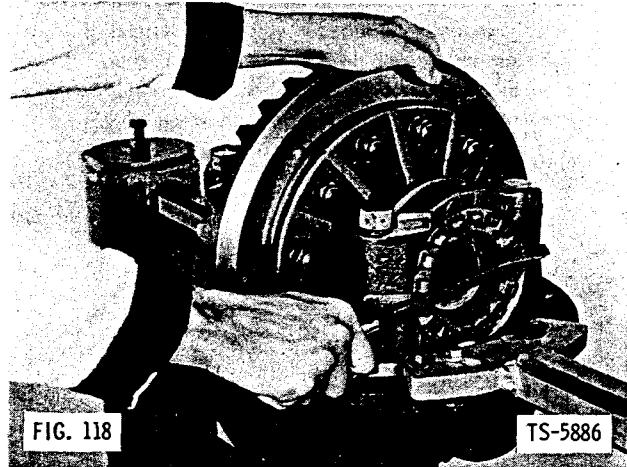
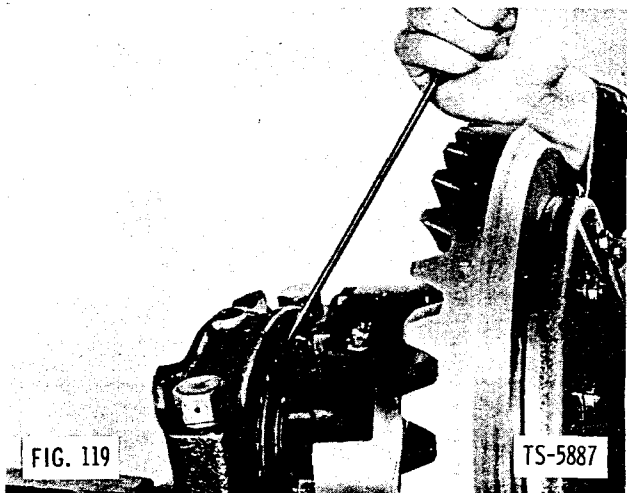

FIG. 118
FIG. 119
10. Tighten bearing adjusting nuts to adjust bearings to zero end play (Fig. 118). This condition may be checked with screwdriver as shown (Fig. 119). All bearing rollers must rotate as ring gear rotates, but it should not be possible to move bearing rollers sideways in cage when prying against them with screwdriver.